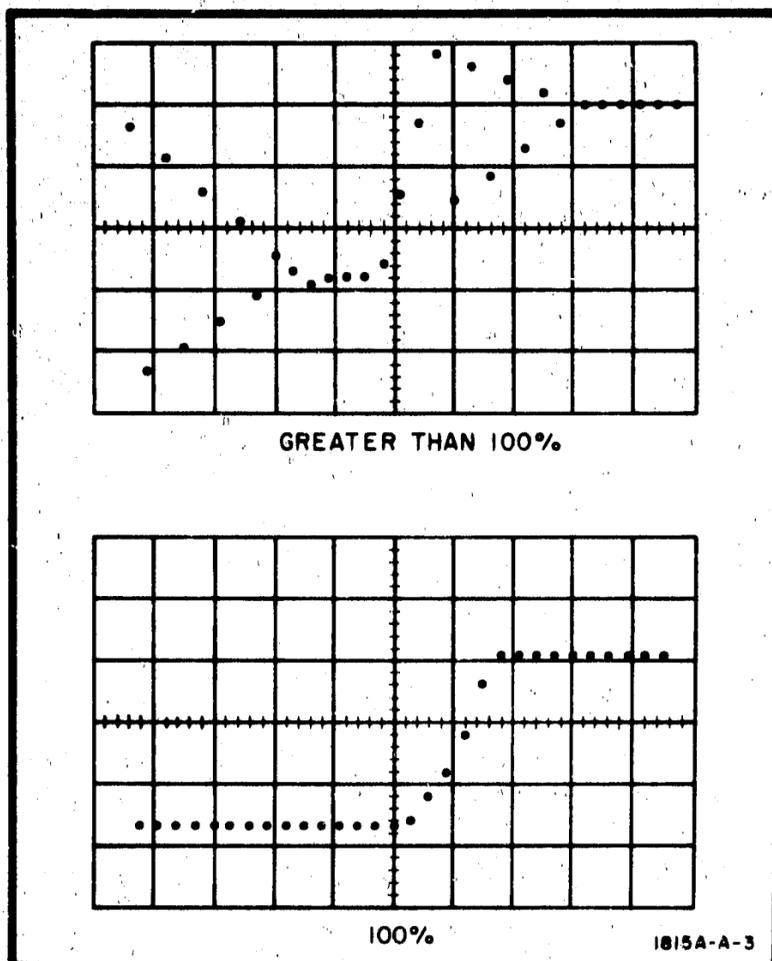

Figure 5-11. Sampling Efficiency Displays
h. Adjust SMOOTH potentiometer A1R11 in the Model 1815A for greater than 100% sampling efficiency (see Figure 5-11).